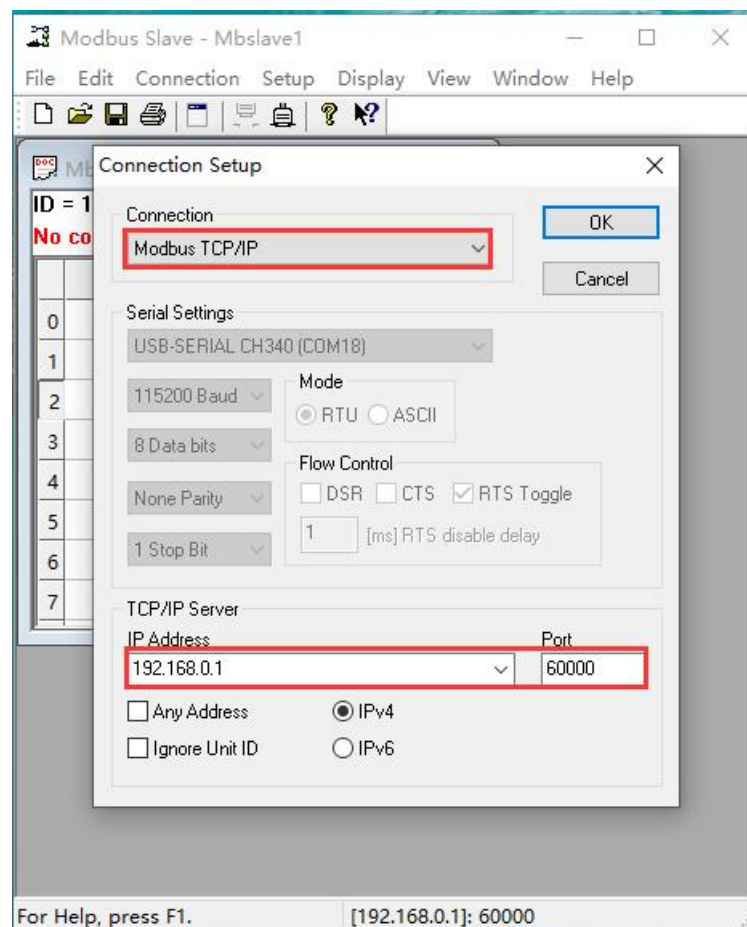

Figure 6-33 MODBUS \_ TCP parameter setting of slave software
6) Select the TCP/IP mode, and the IP address and port are consistent with the settings of the computer, as shown in Figure 6-33.